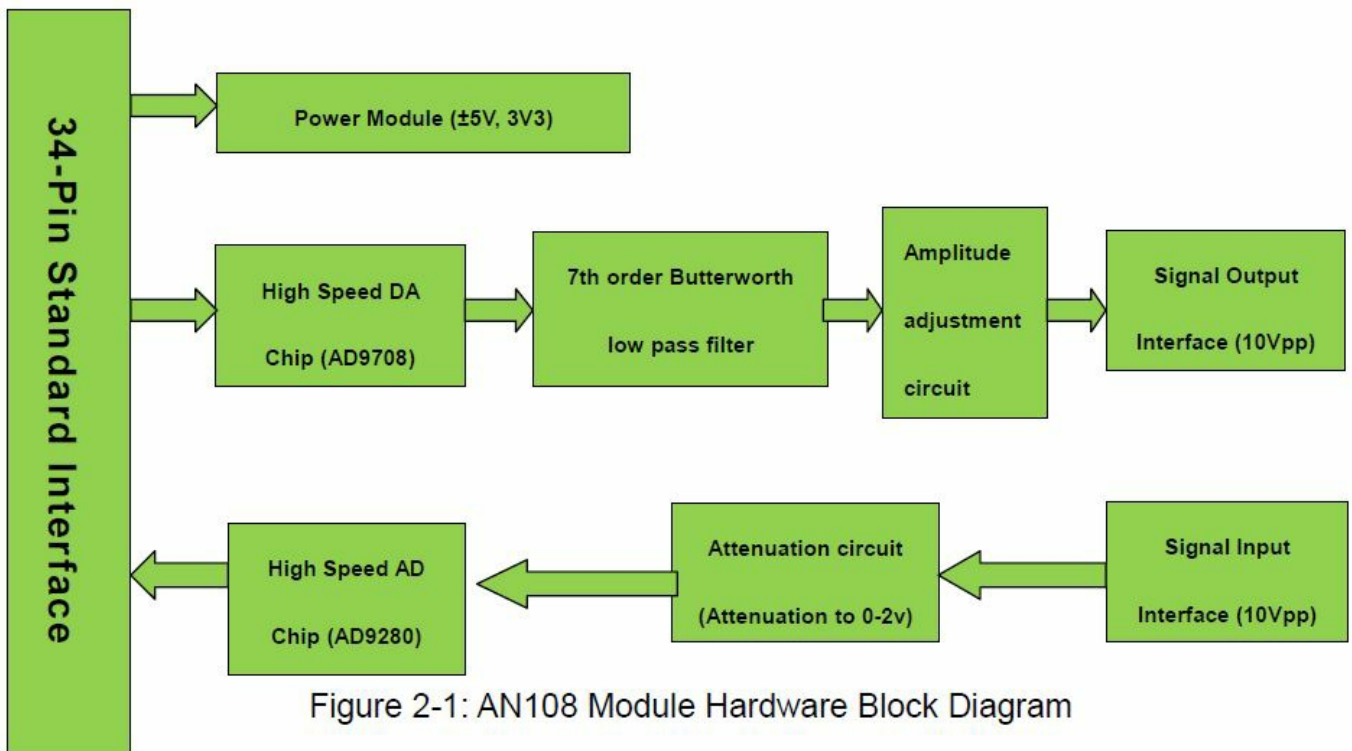

Figure 2-1: AN108 Module Hardware Block Diagram
The hardware block diagram of the module is shown in Figure 2-1 of the user manual. The signal input interface and signal output interface have a range of 10Vpp. The DA circuit consists of a high-speed DA chip, a 7th-order Butterworth low-pass filter, an amplitude adjustment circuit, and a signal output interface. The AD circuit consists of a high-speed AD chip, an attenuation circuit, and a signal input interface.
- As shown in Figure 2-1 the hardware block diagram, the DA circuit consists of a high-speed DA chip, a 7th-order Butterworth low-pass filter, an amplitude adjustment circuit, and a signal output interface.
- As shown in Figure 2-1 the hardware block diagram, the AD circuit consists of a high-speed AD chip, an attenuation circuit, and a signal input interface.